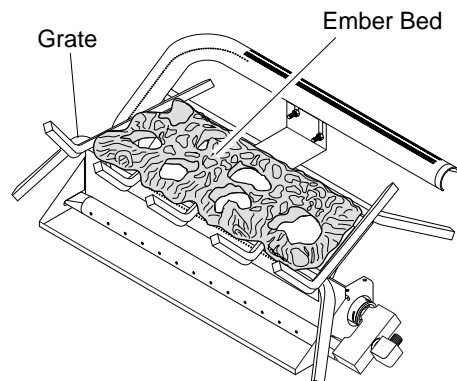

Figure 18 - Installing Ember Bed
1. Place the ember bed (included with burner set) over log grate as shown in Figure 18.